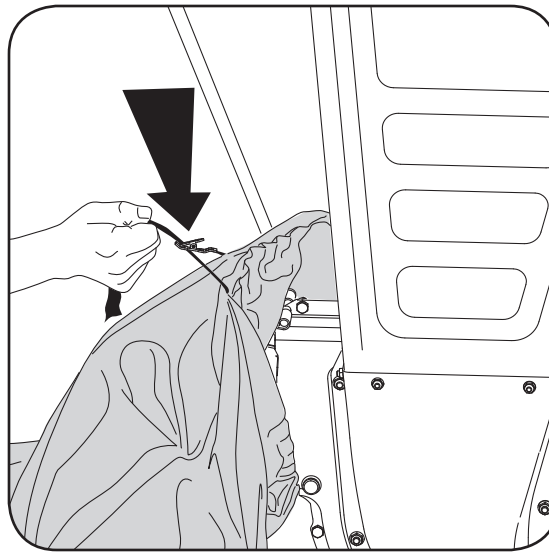

Figure 7
2. Squeeze the locking buckle release the bag's drawstrap before loosening it from the chute deflector. See Figure 7.